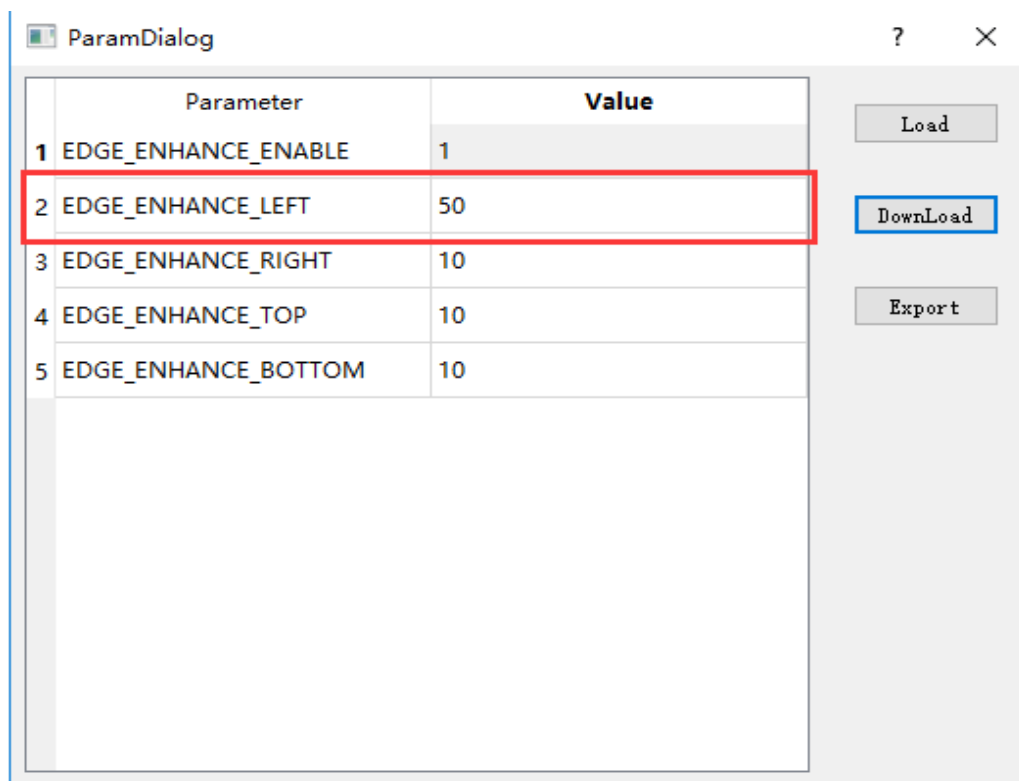

Figure 9. EDGE ENHANCE LEFT parameter saved
(2) Click download to save parameters. Red mark will disappear after finished.as shown in Figure 9